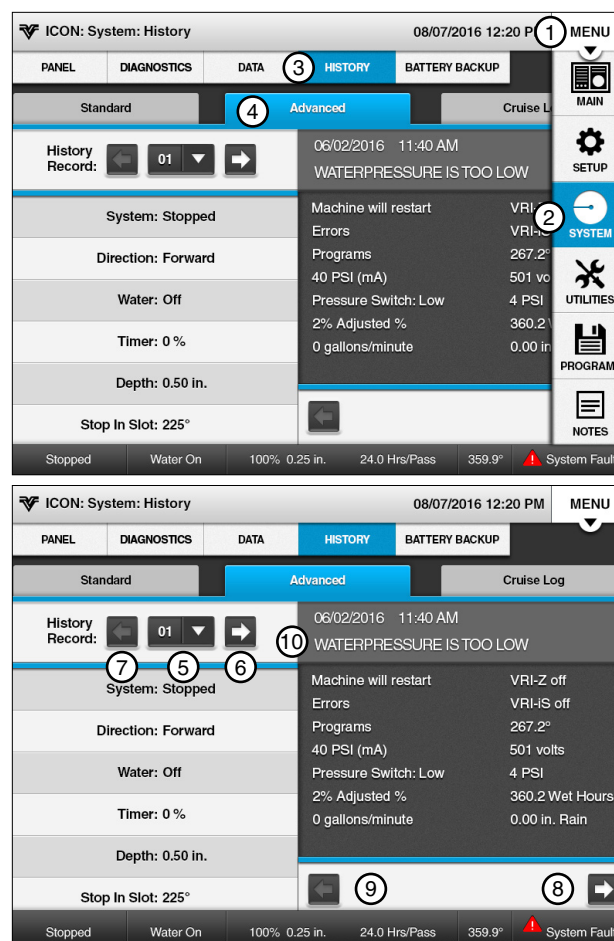

Figure 67-1
The Advanced History Screen displays a record of all statuses and error codes related to the history record. Refer to Figure 67-1.
1. To view Advanced History, push **Menu**, **System**, **History**, and **Advanced**. See Figure 67-1.